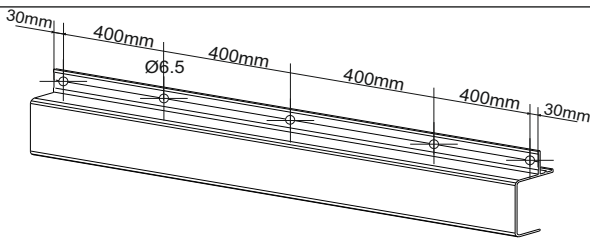

Figure 1
- If the raceway has not already been installed, cut it to size in accordance with the tables in paragraph 3.6, and drill it as shown on figure 1 by using an aluminium drill bit having diameter 6.5mm.